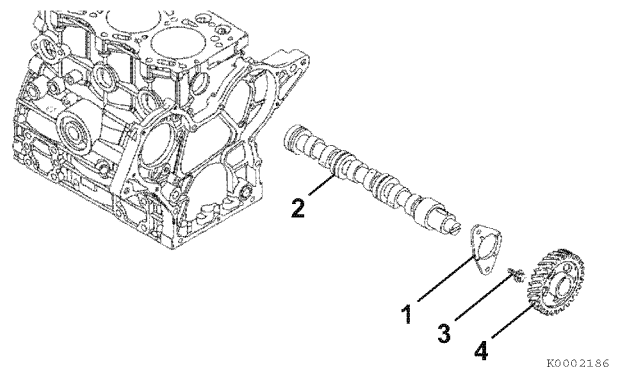

Figure 6-98
1. If removed, reinstall the camshaft end plate (**Figure 6-98, (1)**), key, and camshaft gear (**Figure 6-98, (4)**) onto the camshaft using a press.
2. Lubricate the camshaft (**Figure 6-98, (2)**) with clean engine oil or assembly lube. Slowly insert the camshaft through the front of the engine.
3. Reinstall and tighten the cap screws (**Figure 6-98, (3)**).